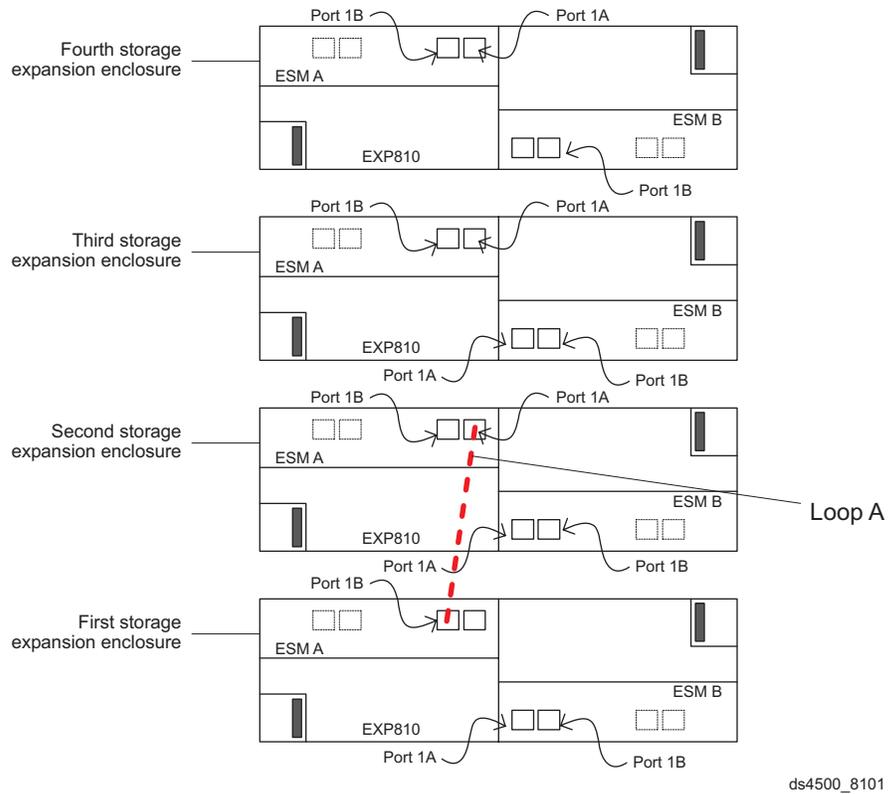

Figure 50. Connecting two EXP810 storage expansion enclosures into drive loop A
1. Connect the first two storage expansion enclosures to drive loop A, as shown in Figure 50 on page 67.